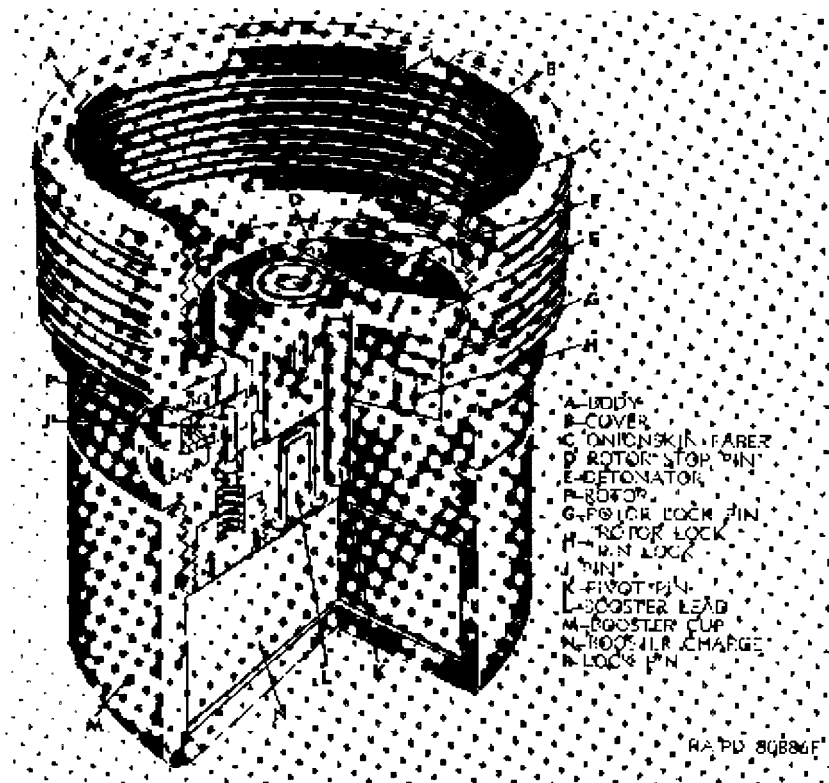

Figure 29. Booster, M21A4.
*Note.* The key letters shown below in parentheses refer to figure 29.
- (1) *General.* The booster M21A4 (fig. 29) is an integral part of PD fuzes M51A5 and M51A4 and MTSQ fuzes M500A1 and M500. The booster is provided with a boresafety mechanism to prevent accidental functioning in the weapon. The booster was originally fitted with a safety (colter) pin as an added safety measure, to prevent the rotor from moving out of its unarmed position prior to assembling the fuze with booster to the projectile. Experience has since shown that